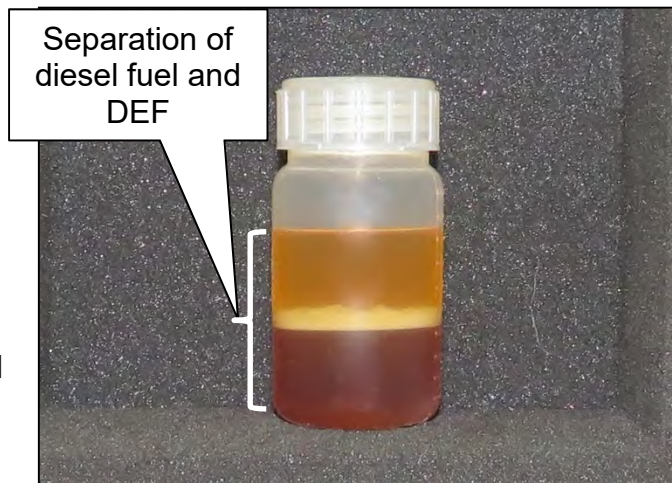

Figure 3
7. Visually inspect the fuel sample for DEF contamination, see Figure 3 for an example of DEF contamination. See Figure 4 to compare a known good sample to varying levels of DEF contamination.